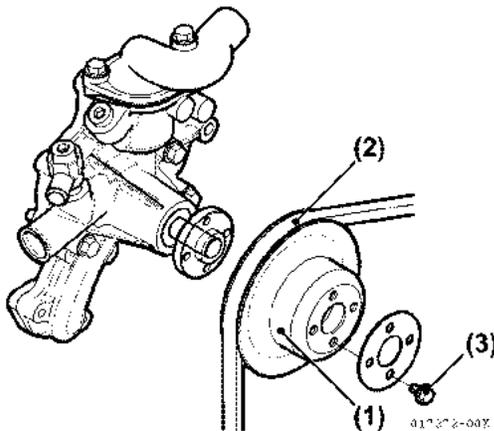

Figure 7-39
5. Check grooves of pulleys and tightening bolts. Replace pulley or bolts as necessary (**Figure 7-39**).